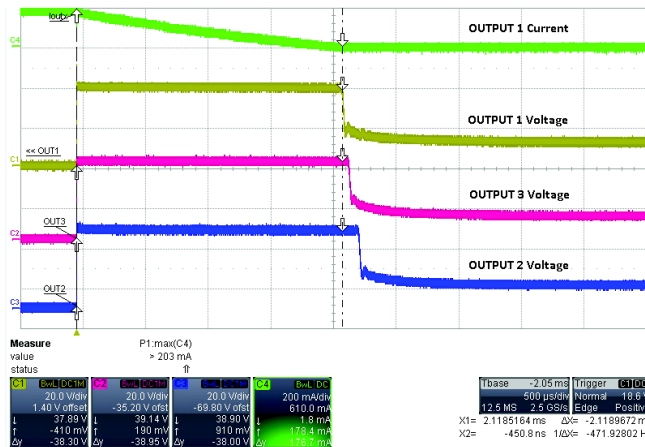

Figure 3. Repetitive Clamping Energy Test
***2M pulses (triangular), VS = 15 V, 63 Ω , 390 mH, TA = 25°C. (See Figure 3)